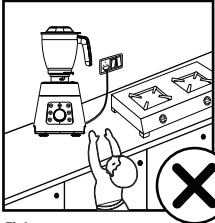

Fig1
- The appliance is not intended for use by persons (including children) with reduced physical, sensory or mental capabilities or lack of experience and knowledge, unless they have been given supervision or instruction concerning use of the appliance by a person responsible for their safety. Children should be supervised to ensure that they do not play with the appliance (Fig1).